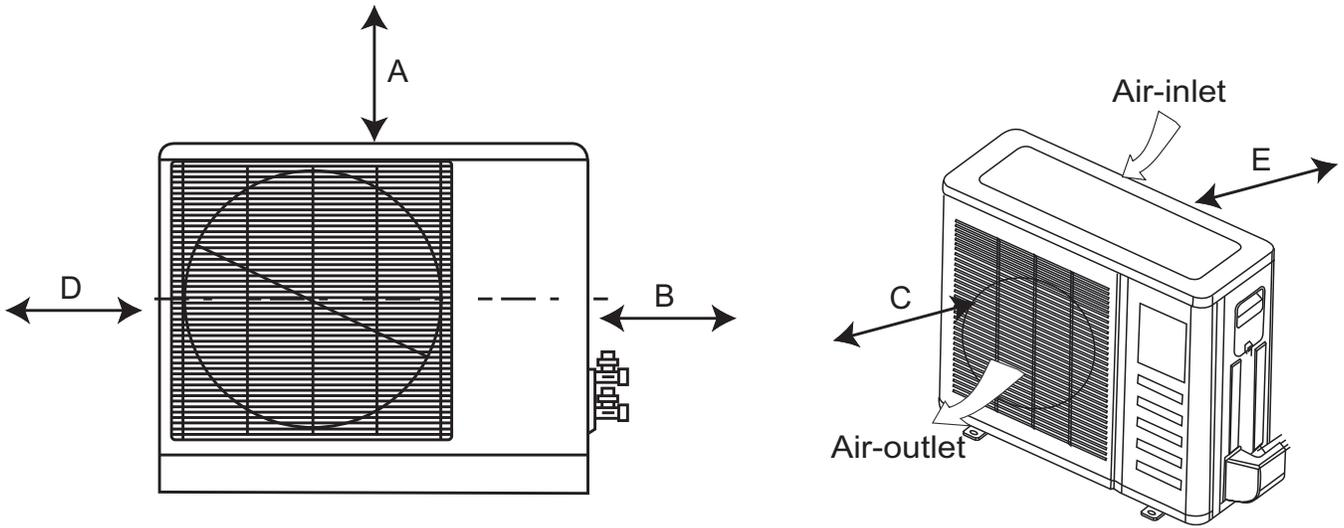

Fig. 5 – Outdoor Unit Clearance
Allow sufficient space for airflow and service of the unit. See Fig. 5 for the required minimum distances between the unit, walls or ceilings.
- A location which provides appropriate clearances (see Fig. 5).